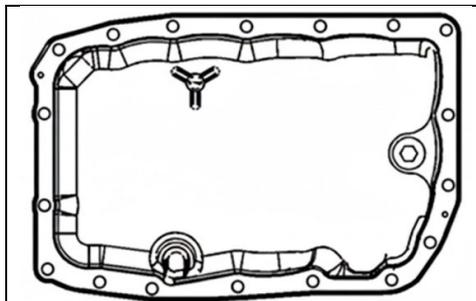

Figure 4
4. Remove the eighteen (18) transmission pan bolts. Allow the transmission to drain and remove the pan. See Figure 4.